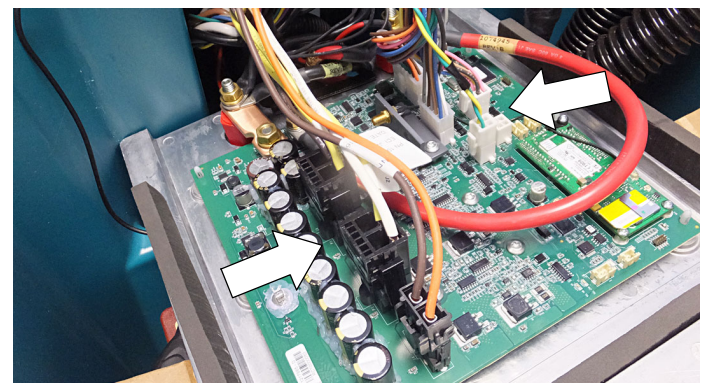

Fig. 11
- Reconnect the wire connectors to the new circuit board as shown (Figure 11).